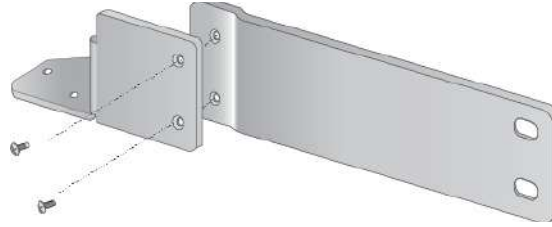

Figure 20. Attaching the Extension to the Bracket
2. Attach the extension to the bracket with the M4x6mm screws using a Phillips-head screw driver as shown in See Figure 20.